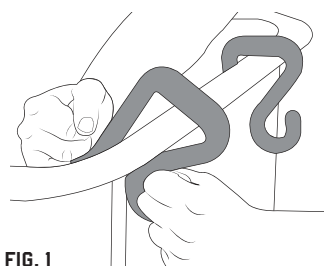

FIG. 1
1. Flex the hook open slightly and angle the hook approximately 45 degrees to the lip of the bucket (FIG 1). The locking portion of the hook should be facing outside the bucket.